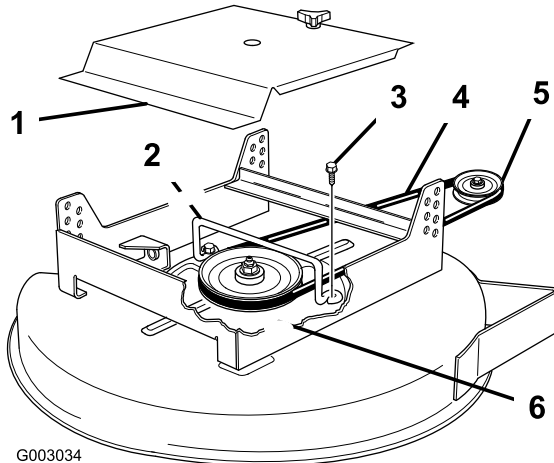

Figure 42
4. Remove the two flange-head bolts holding the belt guide to the top of the mower and remove the belt guide (Figure 42).
6. Install the replacement drive belt around the drive pulley on the traction unit and the spindle pulley (Figure 42).
7. Install the belt guide on the mower with the two flange-head bolts. Ensure that the formed loops face toward the rear of the mower (Figure 42).
10. Install the mower cover onto the cutting unit, then tighten the hand knob (Figure 42).